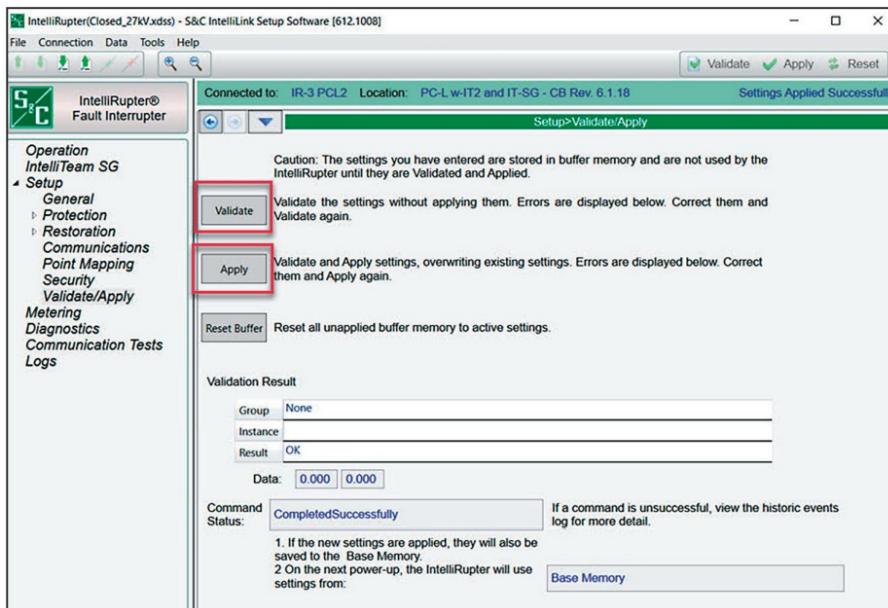

Figure 21. The Setup>Validate/Apply screen.
**STEP 6.** Go to the Setup>Validate/Apply screen. Validate and apply the settings to the device. **See Figure 21.**